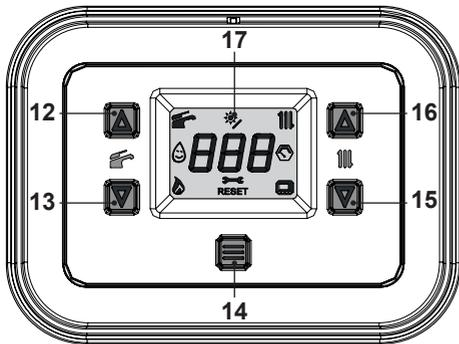

Fig. 7.4
- Press the 14 key for 5 seconds until both  and  symbols appear on the display (Fig. 7.4).
- Switch off the boiler by pressing the 14 (Fig. 7.4) key for 5 seconds until the  symbol appears on the LCD display (Fig. 7.3).